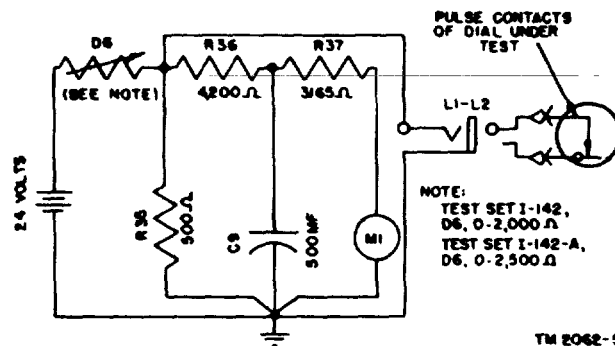

Figure 20. Dial speed test, schematic diagram.
c. SPEED TEST CIRCUIT. (1) The rate of operation of the dial pulse contacts (dial speed) is measured in a resistance-capacitance network associated with the meter (fig. 20). The circuit constants and the meter calibration for this circuit are based on the results of experimental tests using ballistic-type and oscillograph testers for comparison. In this circuit, capacitor C9 is alternately partially charged and partially discharged as the dial pulse contacts open and close. The charge on capacitor C9 at the end of 10 pulses, being a function of the voltage impressed and the difference between the open circuit and short circuit intervals, indicates the rate of operation of the dial contacts. With a fast dial, the time the capacitor charges is shorter and the voltage at the end of 10 pulses is lower than for a slow dial, since for the latter the time for charging the capacitor is longer.
(2) At the factory, this circuit is calibrated by adjusting the voltage through control D6 until the desired meter scale reading is obtained for a dial operating at a specified speed. Without changing the position of